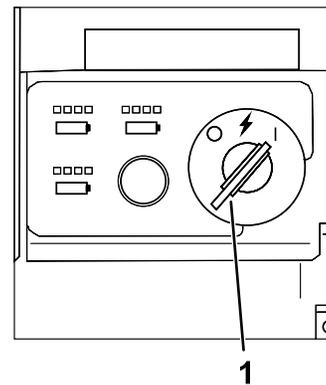

Figure 18
4. Turn the key to the ON position to turn on the machine (Figure 18).